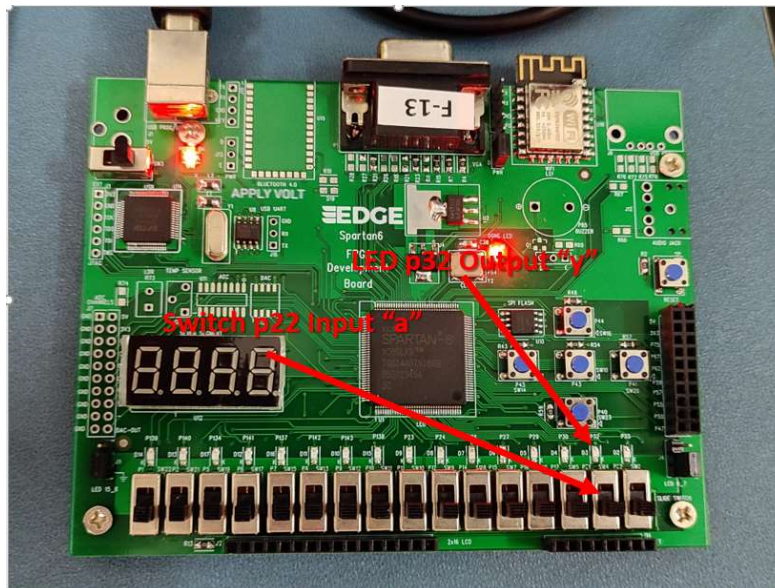

Fig 1.39
1) When the switch is not pressed, LED remains OFF (Fig 1.39)